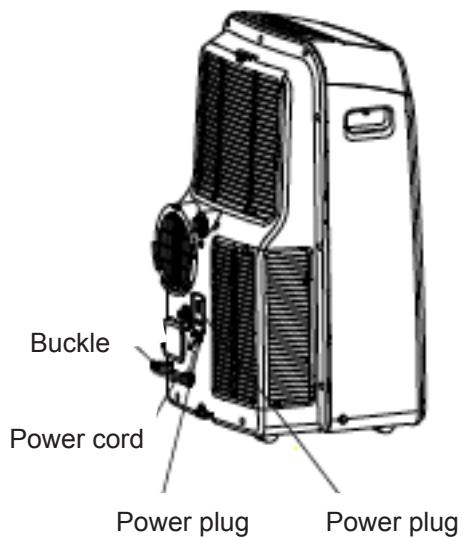

Fig. 25
- Stop the appliance and unplug it, wrapped the cord and bundle it with the tape(Fig.25). Remove the batteries from the remote controller.